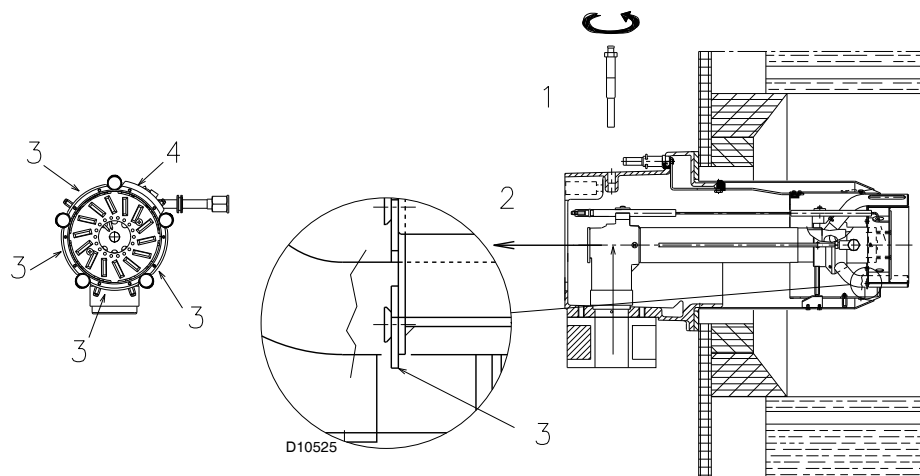

Fig. 13
- remove the screw 1)(Fig. 13) and extract the internal part 2);